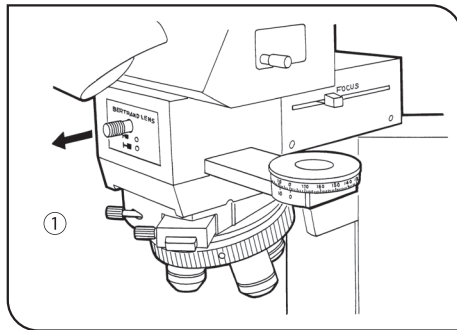

Fig. 25
2. Pull out the Bertrand lens knob ① to the pulled-out (○) position. (Fig. 25)
5. Push in the Bertrand lens knob ① to the pushed-in (●) position for conoscopic observation.